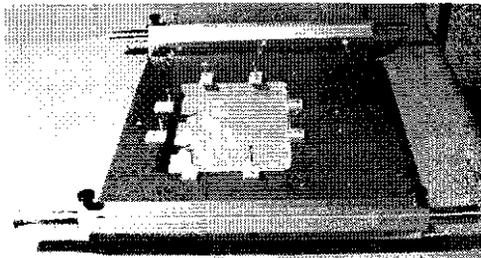

Figure 2
5. Insert one Connector Tube into both the Front Rail (7) and Rear Rail (8) of the Router Table.
6. Position both Connector Tubes evenly, so that an equal amount is protruding out from both ends of the Rails (7 and 8). (See Figure 2)